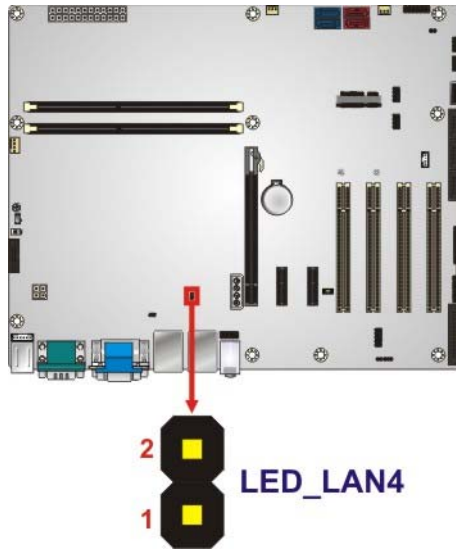

Figure 3-18: LAN2 LED Connector Location
- CN Location:** See **Figure 3-18**